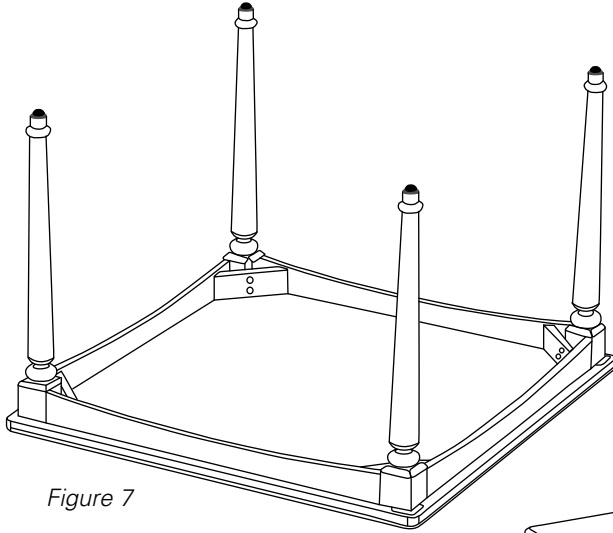

Figure 7
3. Insert the leg bolts into the top mounting holes (Figure 6). Secure the leg by placing the washers, lock washers and flange nuts onto the bolts. Tighten the flange nuts until the leg is tight and secure (Figure 7).
4. Repeat this for the remaining legs (Figure 7).